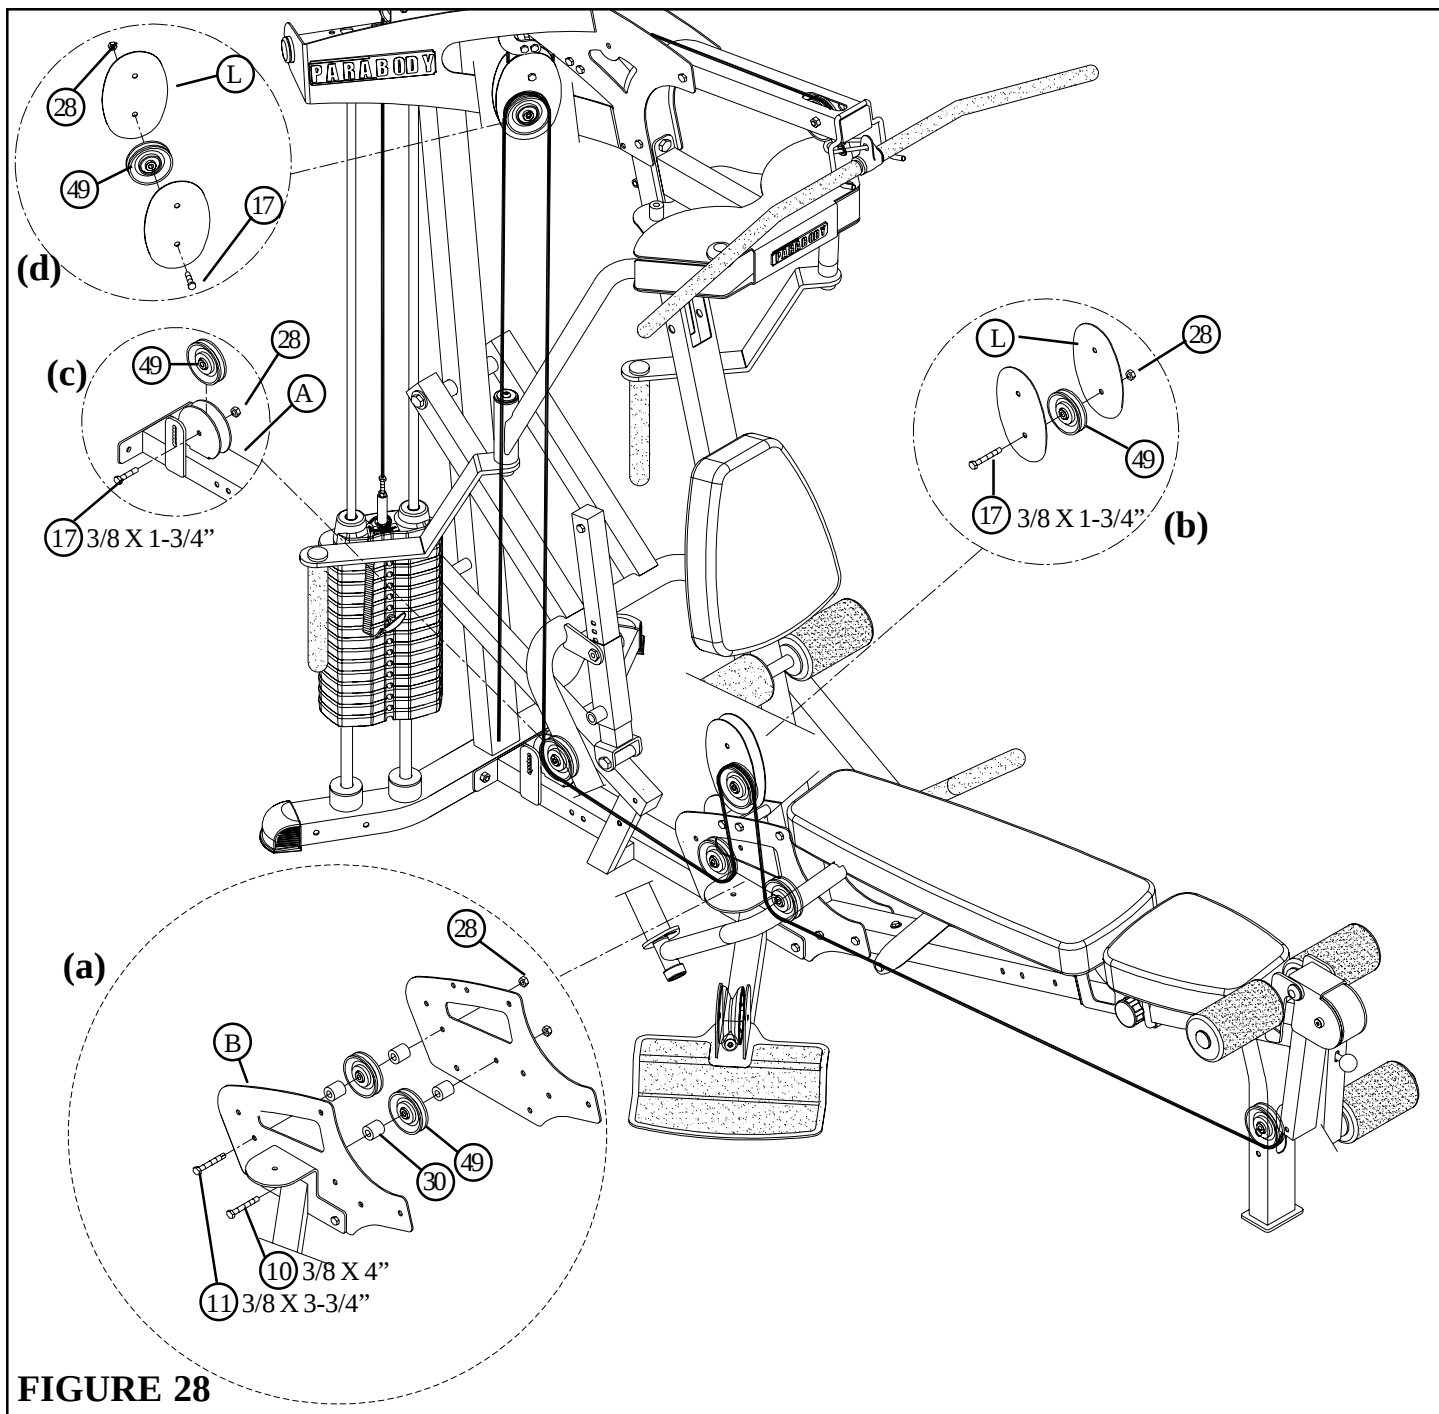

**FIGURE 27**
- Route the threaded end of the LOW CABLE (AW) thru the SEAT FRAME (AF) and assemble the swivel end of LOW CABLE (AW) to the LEG PEDESTAL (AD) using one 3/8 X 3-1/4" BOLT (13), two 15/16" FLANGE SPACERS (41) and one 3/8" LOCK NUT (28). See FIGURE 27(a)
- Securely assemble the LOW CABLE (AW) and one 3-1/2" PULLEY (49) to the SEAT FRAME (AF) using two 3/8 X 3-3/4" BOLTS (11), two 3/8 X 1-1/16" FLANGE SPACERS (40), two 3/8" WASHERS (23) and two 3/8" LOCKNUTS (28). See FIGURE 27(b). **(NOTE: The LOW CABLE (AW) must be routed over the retaining bolt as shown in FIGURE 27.)**